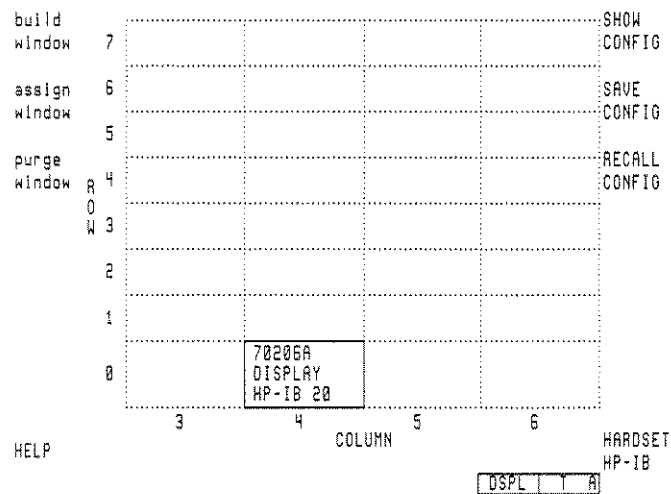

Fig. 30
3. Press **HARDSET/SOFTSET HP-IB** so that the display is left in the **HARDSET** mode as in Figure 30.